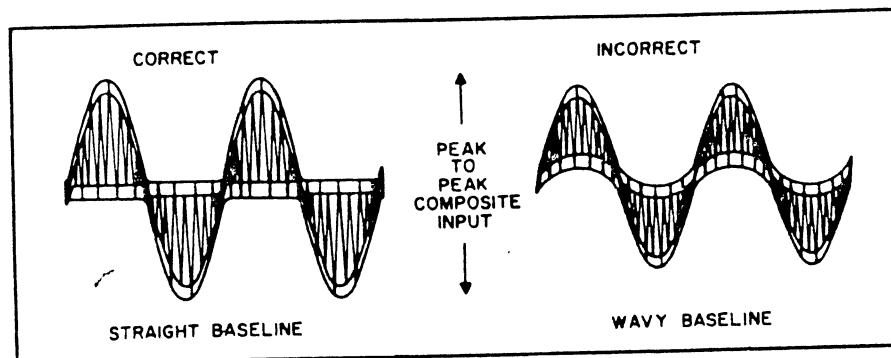

Figure 13. Composite Input To Multiplex Decoder
(4) Adjust cores of Z401 and Z402 (on AM/FM IF, MPX board) for maximum reading on DC VTVM.
(5) Connect output of audio generator, set for 1 kHz, to the external modulation input of MPX generator and to the external sync input of an oscilloscope. Adjust audio generator level for 1.2 volts peak-to-peak composite MPX input (10% pilot, 90% audio). See Figure 13. Modulate right channel only. Proceed with steps (5) through (10) of PREFERRED ALIGNMENT PROCEDURE.
(6) Reconnect the jumper lead going to pin 4A (on AM/FM IF, MPX board) removed previously.